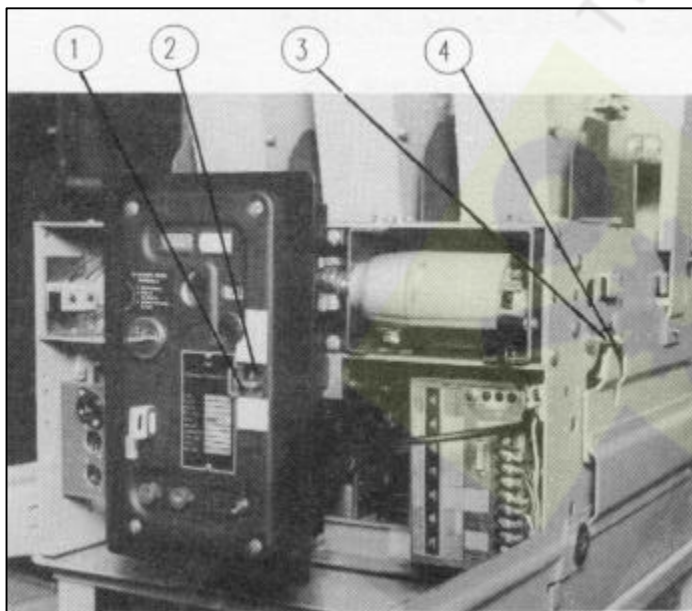

FIG. 4.1.3 OPERATING POSITION
- INSERT THE DRAWOUT CRANK AND TURN CLOCKWISE UNTIL THE BREAKER IS IN THE TEST POSITION AS SHOWN IN FIG. 4.1.2 OR IN THE OPERATING POSITION AS SHOWN IN FIG. 4.1.3 AND REMOVE THE CRANK. WHEN CRANKING THE BREAKER INTO THE OPERATING POSITION, CONTINUE CRANKING UNTIL THE MECHANISM COMES TO A FIRM STOP.